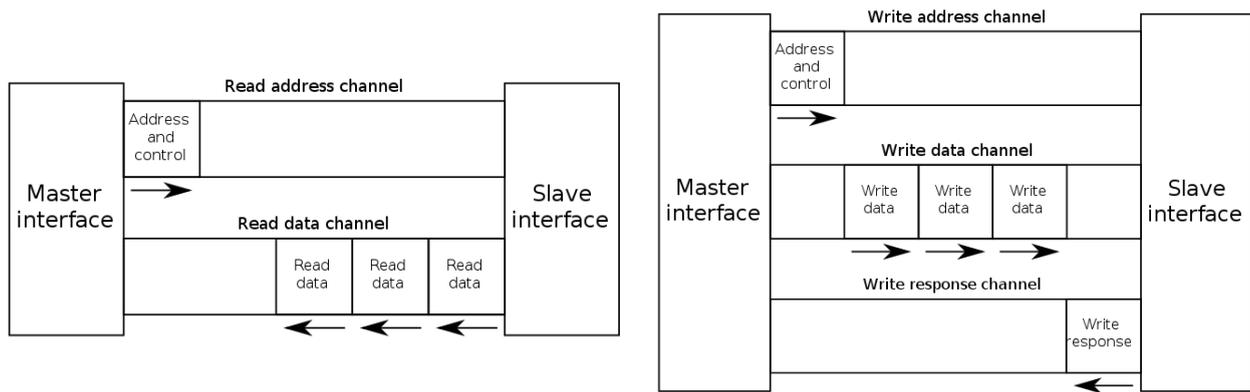

Figure 11: Left: AXI read transaction – Right: AXI write transaction¹⁰
- AXI Interface:** This implements the N-to-M communication mentioned above. **AXI** implements a bus structure, which means that transactions include not only data, but also an address corresponding to the data to be accessed. There are two different types of data transfers: **Read** operations and **Write** operations. During a **Read** operation, a controlling block sends out an address from which it wants to read data. A responding block, to which this address belongs, then responds with the corresponding data. During a **Write** operation, a controlling block sends out some data and an address, to which it wants to write this data. The responding block, to which this address belongs, then receives the data to be written and stores it locally. Given this type of question and response style communication, **AXI** data transfers usually take up multiple clock cycles. Figure 11 shows a high level view of **AXI** read and write transactions.